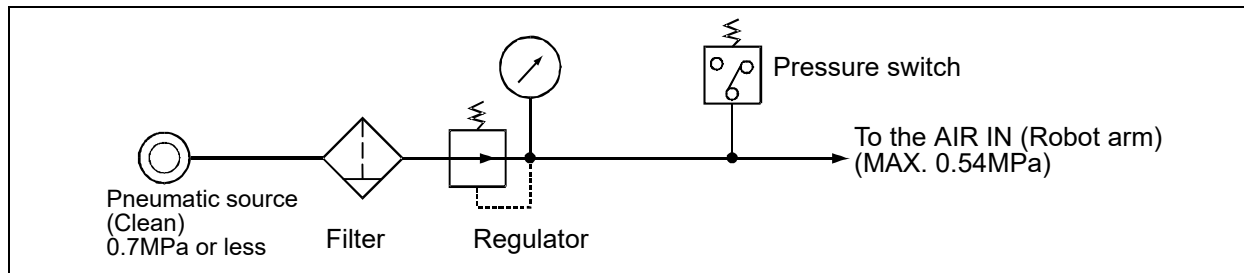

Fig.2-6: Air supply circuit example for the hand
- 2) When the factory pneumatic pressure drops, as a result of the hand clamp strength weakening, there can be damage to the work. To prevent it, install a pressure switch to the source of the air as shown in Fig. 2-6 and use the circuit described so that the robot stops when pressure drops. Use a hand with a spring-pressure clamp, or a mechanical lock-type hand, that can be used in cases where the pressure switch becomes damaged.